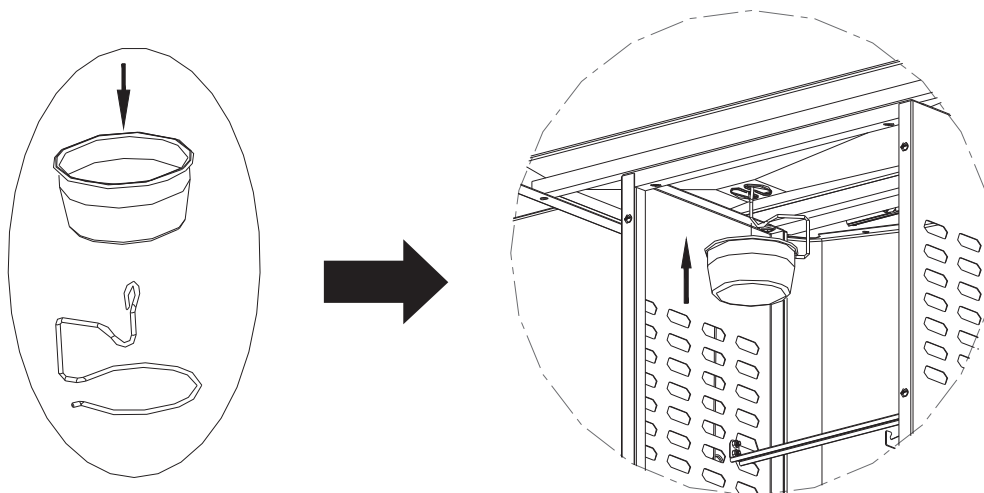

Fig. 7
1. Place grease cup into grease cup clip and hang grease cup clip from bottom of firebox and as shown in Fig. 7.